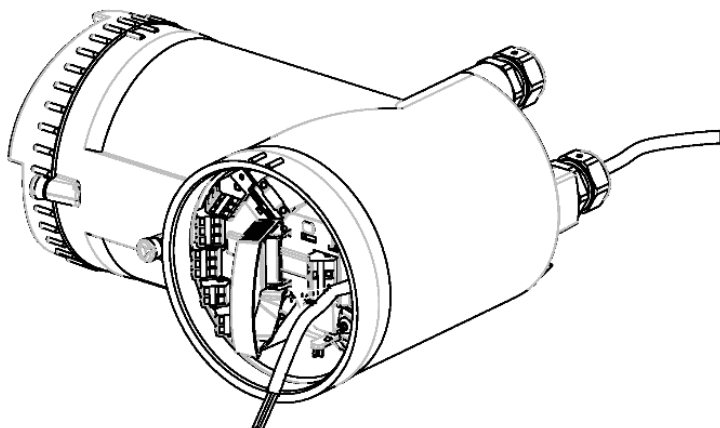

Fig. 40: Open power supply terminal
5. Connect ground to terminal $\oplus$ and power to terminals L/+ and N/- using wiring tool in the manner shown in Fig. 40.